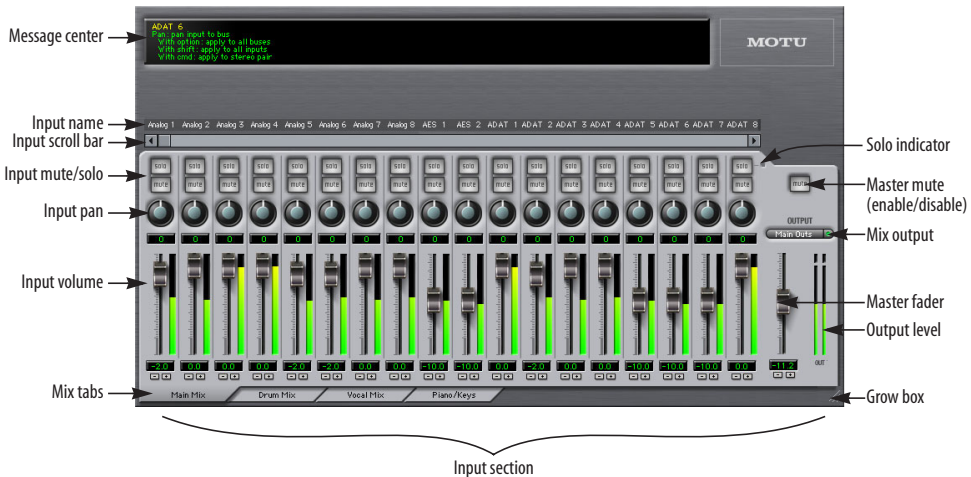

Figure 9-1: CueMix Console is a virtual mixer that gives you control over the 896HD's on-board mixing features.
CueMix Console displays one mix at a time. To select which mix you are viewing, click its tab at the bottom of the window, as shown in Figure 9-1. The mix name appears in the tab. Double-click the name to change it.
To view a mix, click its tab at the bottom of the window, as shown in Figure 9-1. The mix name appears in the tab.
The master mute button (Figure 9-1) temporarily disables (silences) the mix.
The master fader (Figure 9-1) controls the overall level of the mix (its volume on its stereo output). Use the individual input faders to the left to control individual input levels.
To add an input to a mix, or remove it, click its MUTE button. To solo it, use its SOLO button. To toggle these buttons for a stereo pair, hold down the control key while clicking either channel. The Solo indicator LED (Figure 9-1) lights up when any input is soloed (including inputs that may currently be scrolled off-screen).
Use the input fader and pan knob (Figure 9-1) to adjust these settings for the input in the mix. Again, all settings within the gray-shaded channel strip area belong to the mix currently being viewed. Note that an input can have different settings in different mixes.
- 1 Select the source mix (Figure 9-1) and choose Copy from the file menu (or press control-C).